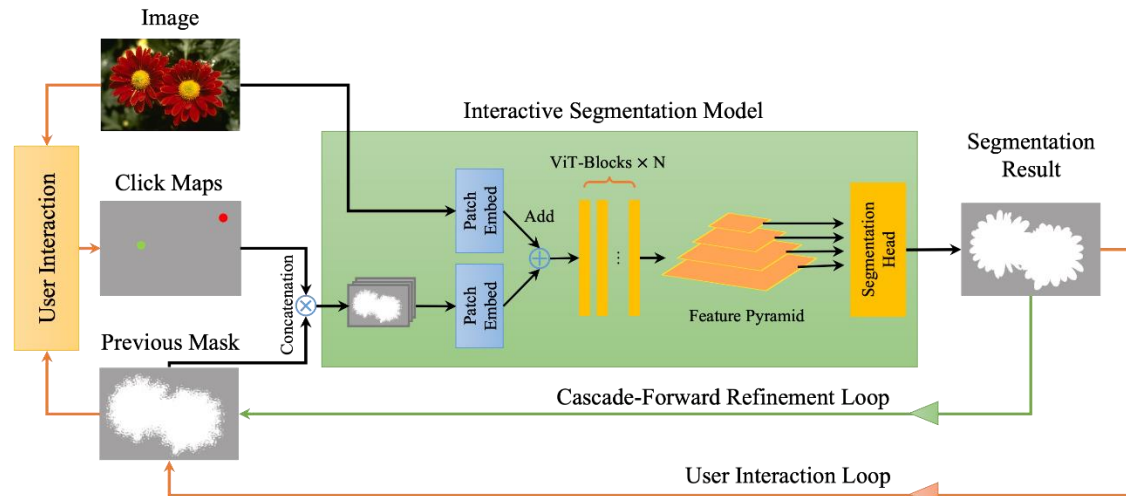

Fig. 1 Overview of the model. In the click map, the green color click is in the target object; the red color click is from background.
- Developed a new artificial intelligence (AI) model to assist manually annotating and detecting the interesting objects on multi-scale and multiple instrumental microscopies\*. The flowchart of the interactive AI model based on natural images is shown in Fig. 1